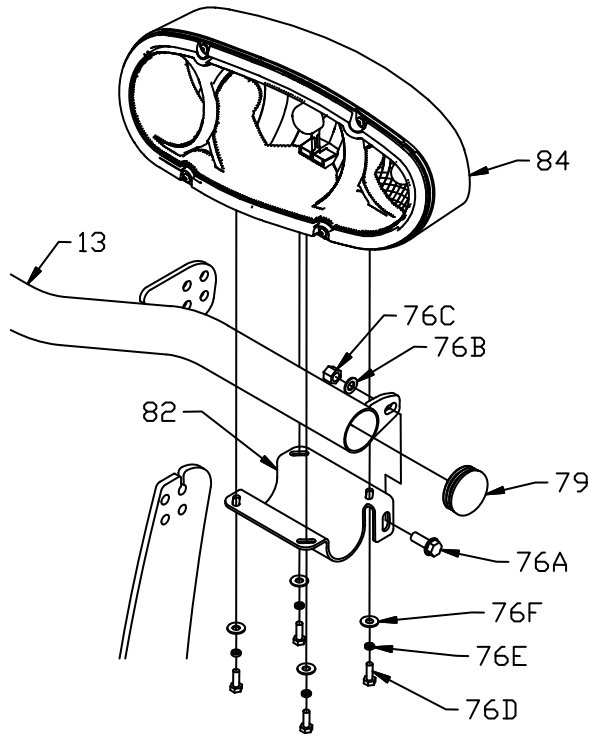

Figure 8. Headlight Mounting Assembly G10115
14. Check that End Cap (79) is properly inserted into Light Bar (13).
15. Place Driver Side Headlight Bracket (82) below Light Bar (13) and secure with one 3/8"-16 X 1" Hex Head Shoulder Bolt (76A), one 3/8" Flat Washer (76B), and one 3/8" Nylon Lock Nut (76C).
16. Fasten Driver Side Headlight (84) to Driver Side Headlight Bracket (82) using four 1/4"-20 X 3/4" Hex Head Bolts (76D), four 1/4" Split Lock Washers (76E), and four 1/4" Flat Washers (76F). Leave fasteners finger tight until Headlight orientation has been completed. See Figure 8 for proper fastener placement.
17. Repeat Steps 28 through 30 for Passenger Side Headlight Bracket (83) and Passenger Side Headlight (85).